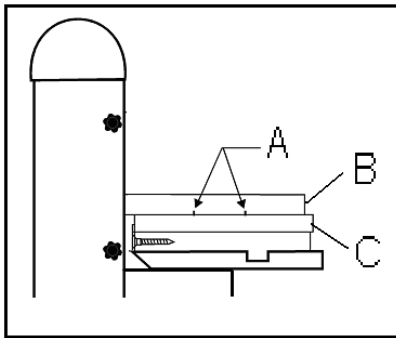

Fig 3
When sanding in the vertical position, the table attachment must be positioned as sanding table (Fig 3).
For pattern sanding the workpiece (B, Fig 3) is mounted to a sanding template (C) with nails (A).